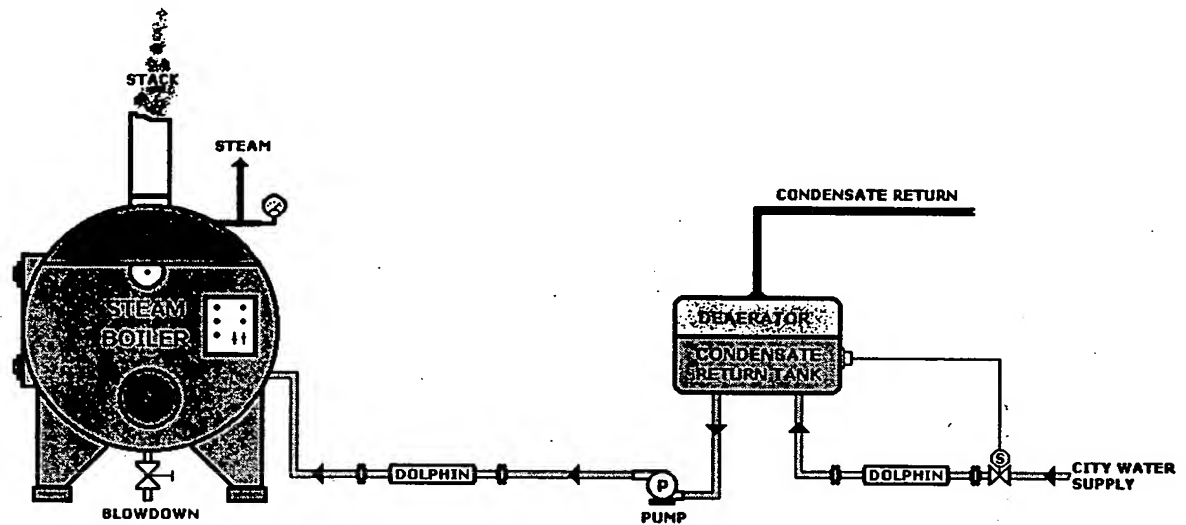

Figure 4. Typical Boiler Installation
1. The make-up line Dolphin System should be installed after or downstream of the fill control valve on the make-up water line into the condensate return tank. Ideally, the line will fill into a reservoir on the tank below the water line, allowing "aragonite-diffusion continuity" of the Dolphin System to the make-up water tank. (See Figure 4.)
2. The boiler feed line Dolphin System should be installed after or downstream of the feedwater pump and prior to the boiler. (See Figure 4.)